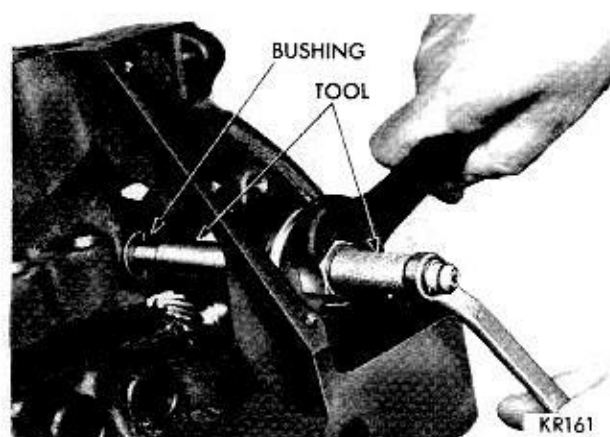

Fig. 28—Burnishing Distributor Drive Shaft Bushing
(3) As the burnisher is pulled through the bushing by tightening remover nut, the bushing is expanded tight in the block and burnished to correct size (Fig. 28). **DO NOT REAM THIS BUSHING.**